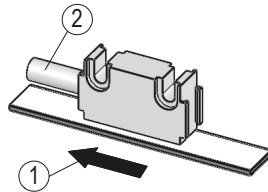

Fig. 6: Definition of counting direction
► Take care that the magnetic sensor is aligned correctly in order to ensure optimum sensing (see Fig. 6).